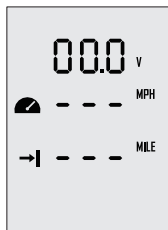

Figure 6-1
Step1: In power-on state, press “M” button and hold to enter the preference setting page as shown in Figure 6-1. Users can choose display items based on personal needs and preference.
Step2: On the preference setting page, the blinking item is the object waiting to be set. Press the “^” button to view options for the blinking item. For example, in Figure 6-1, if “V” is blinking on the preference setting page, it means that “V” has other alternate options. Just press the “^” button, and “V” will switch to “%”, i.e. the displayed item is switched from voltage to battery level.